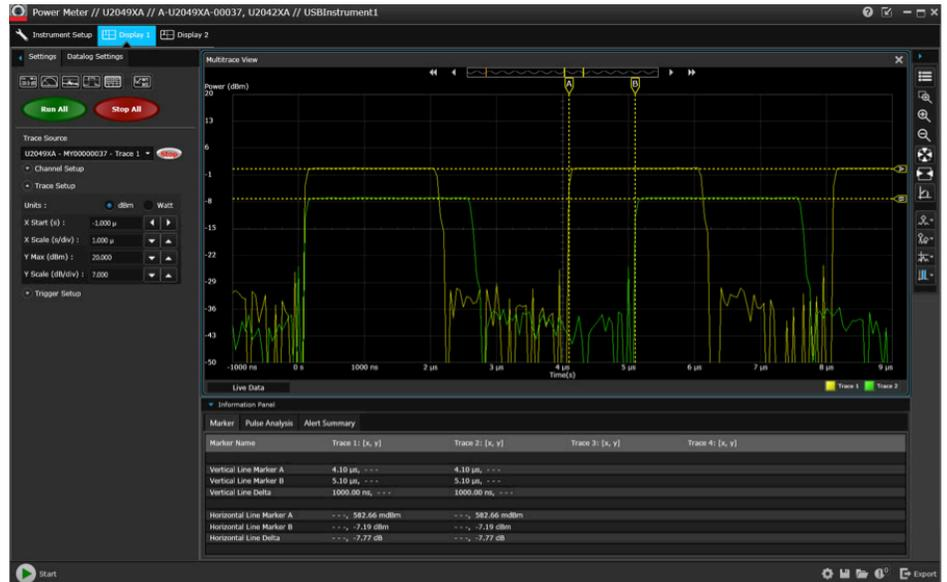

Figure 25. Power Meter App application shown in separate window, which allows the trace graph space to be maximized for better pulse analysis measurement
36. Open Power Meter App in new window (see Figure 25)